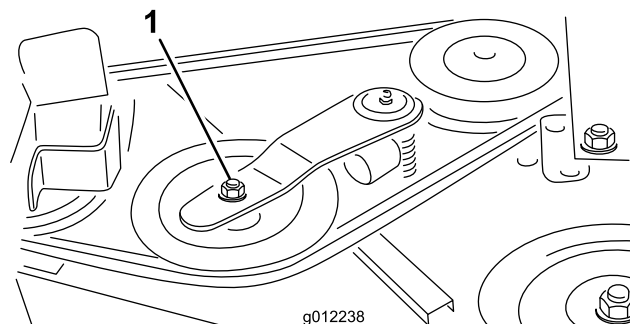
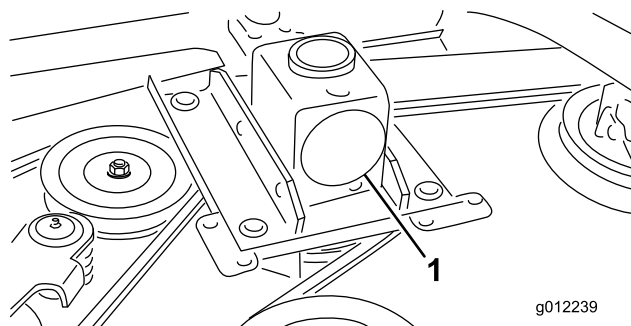

Figure 35
Figure 36
2. Using a torque wrench or similar tool, move the idler pulley (Figure 35) away from the drive belt to release the belt tension and allow the belt to be slipped off the gearbox pulley (Figure 36).